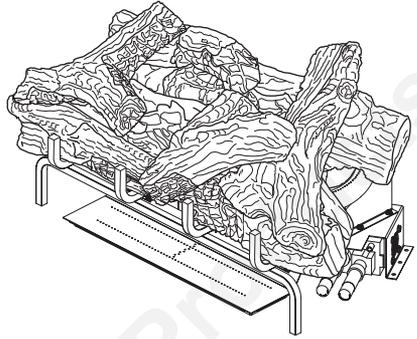

Figure 43- Final Assembly
- Match the round hole on the bottom of the center crossover log (#8) with the metal pin on the top of the right crossover log. Rest the front of the center crossover log on top of the front right log and against the grate as shown in Figure 42. See Figure 43 for final assembly.